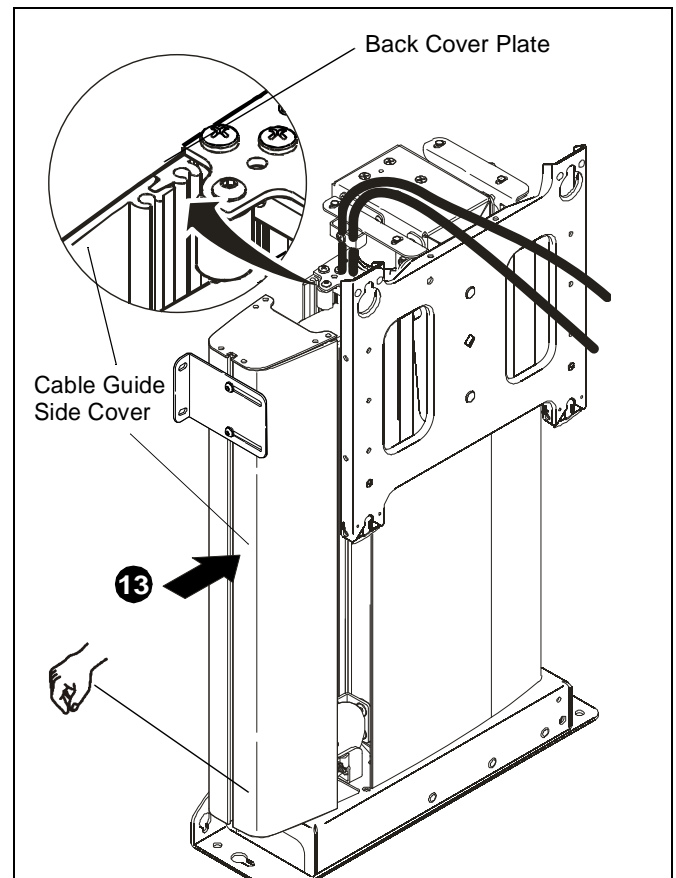

Figure 12
13. Slide cable guide side cover over cable guide making certain lip on back cover plate is fully seated in groove in cable guide side cover. (See figure 12)